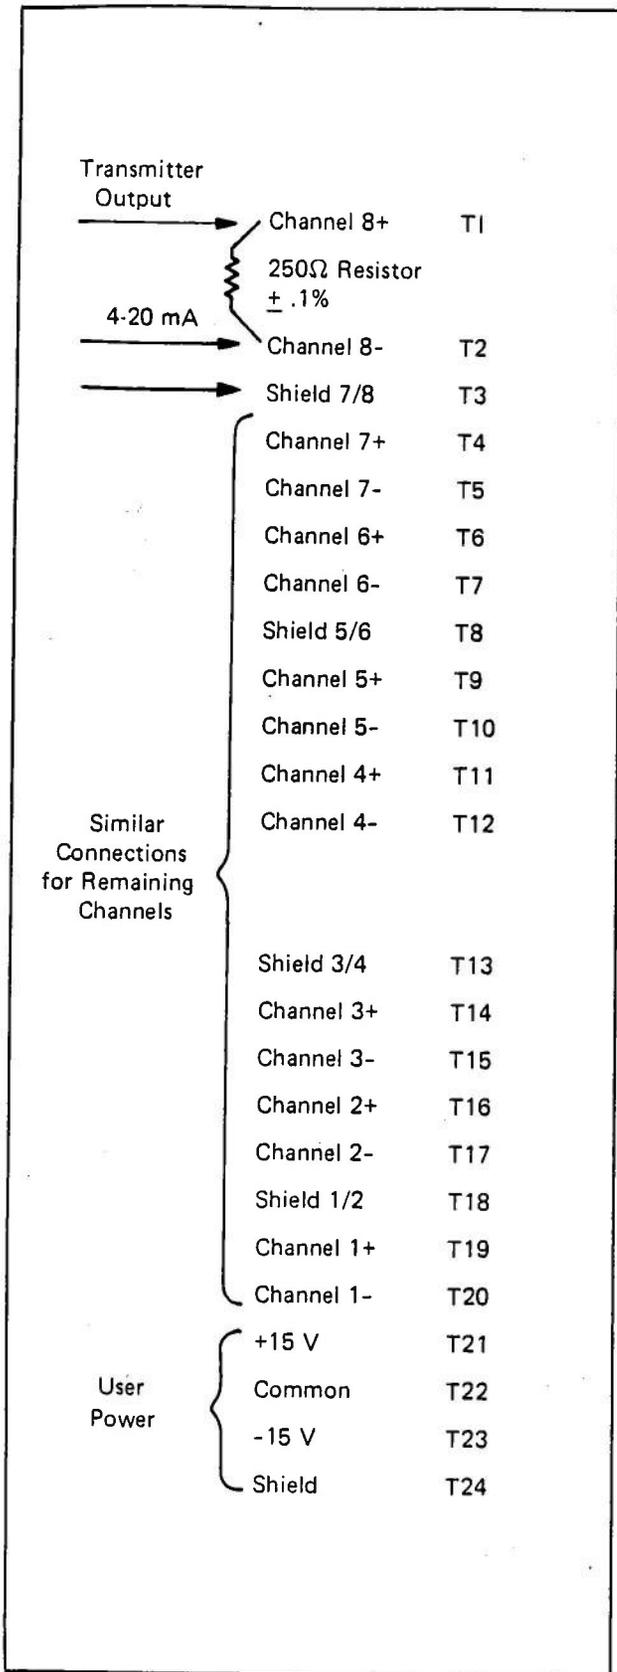

Figure 10 – Current Input Resistor Connections
5. Any channel on the Module can accept an analog current input if user-supplied resistors are added to convert the current input to a voltage. Select the correct resistance value from Table B. Install the resistor across the + Analog In and - Analog In terminals of the channel(s) to be converted (Figure 10). All resistors should be 0.1%, 1/2 watt precision types with low-temperature coefficient (less than ± 20 ppm).